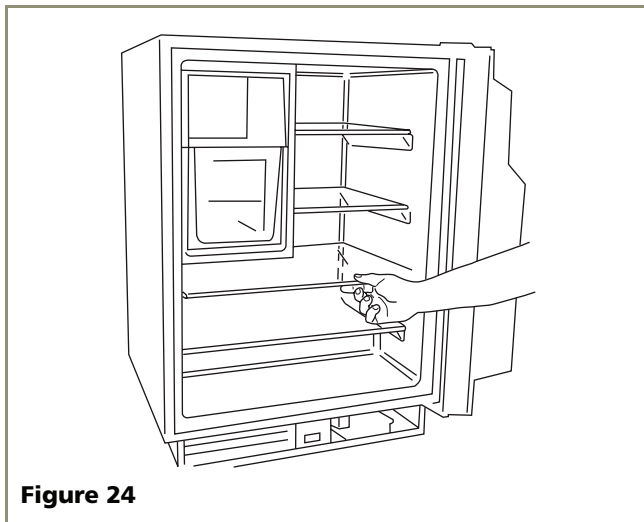

Figure 24
2. Slide the shelves onto lower sets of ribs, making sure the decorative graphics are on the underside of the shelves. While edge strips go toward the rear and silver edge strips go toward the front. See **Figure 24**.